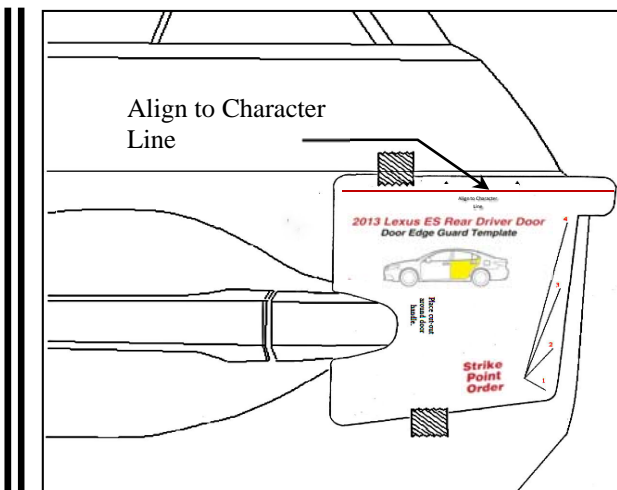

Fig. 1-3
- (1) If you will be using the paper templates, use scissors and carefully cut them out at this time.
- (2) Select the rear door template and fit the notch around the door handle. Adjust it as needed to ensure it is aligned to the character line as noted on the template. If needed, tape it into place using painter’s masking tape (Fig 1-3).